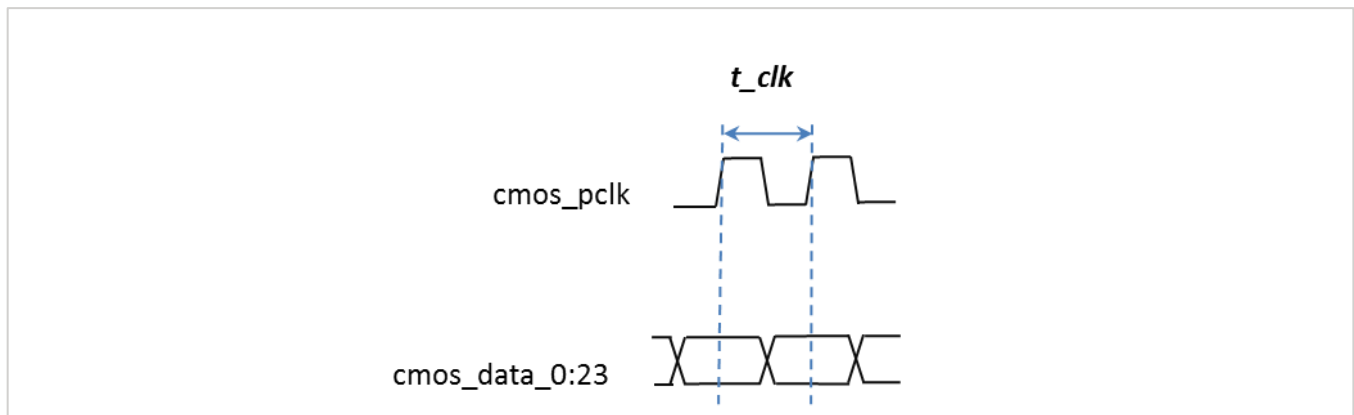

FIGURE 60: PHASE OF PIXEL CLOCK RELATIVE TO CMOS DATA
4. All signals in the CMOS channel are latched on the rising edge of the pixel clock *cmos_pclk* as illustrated in Figure 60. As shown in